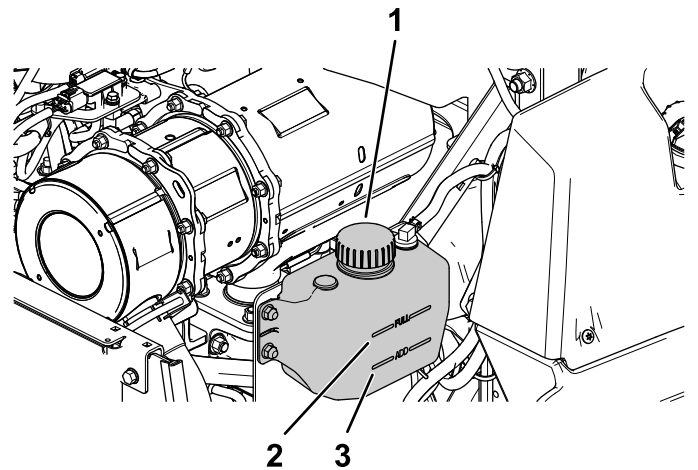

Figure 56
4. Check the level of the coolant in the expansion tank (Figure 56).
5. If coolant level is low, remove the expansion-tank cap, and add the specified coolant (Figure 56).